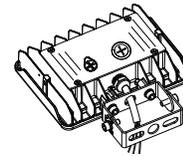

Figure 2-3
- Attached together the **Trunnion Bracket Part B** to **Part A** with **Locking Bolts**. (Figure 2-3)